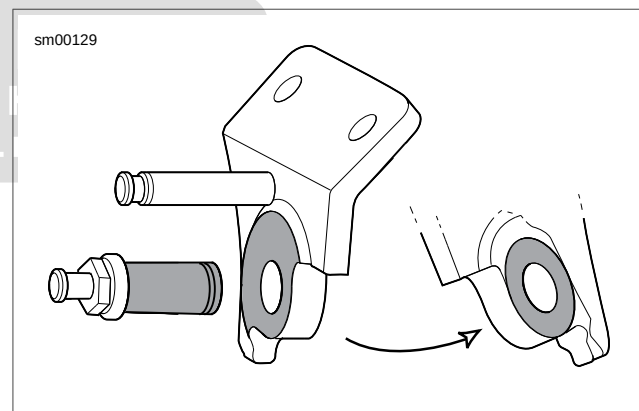

Figure 2-180. Sidestand Assembly Lubrication (Shaded Areas) (Typical)
2. Lubricate sidestand pivot pin and mating portions on sidestand bracket with WHEEL BEARING GREASE (Part No. 99855-89) as shown in Figure 2-180.